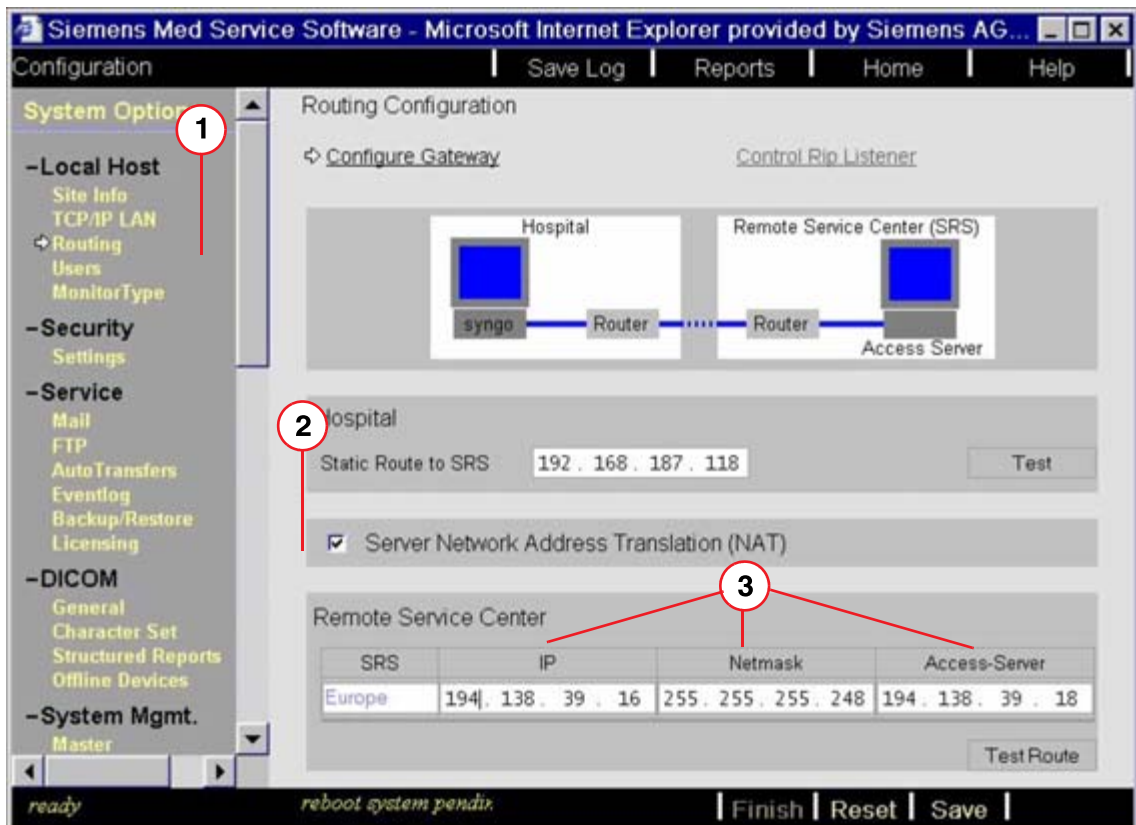

Fig. 29: Routing page with Outside NAT option activated
2. The checkbox (2/Fig. 29 / p. 52) must be **activated**.
3. In (3/Fig. 29 / p. 52), enter the values for: